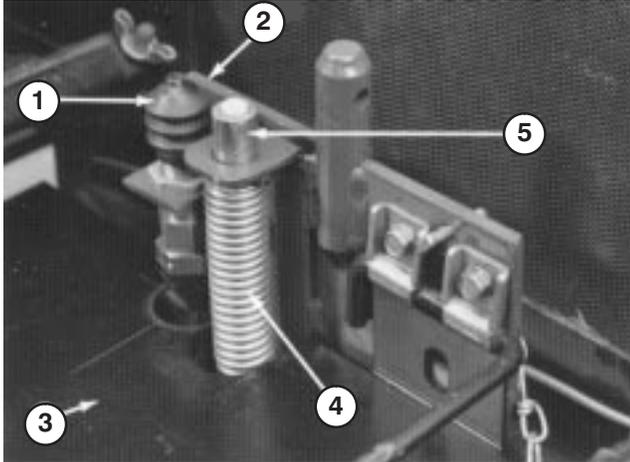

Figure 6
1. (Model 30741 only) Remove flange screw and locknut securing sealing plate, over fuel tank, to frame (Fig. 6). Remove sealing plate.
2. Insert pin part way into hole in top of seat support bracket on machine (Fig. 6).